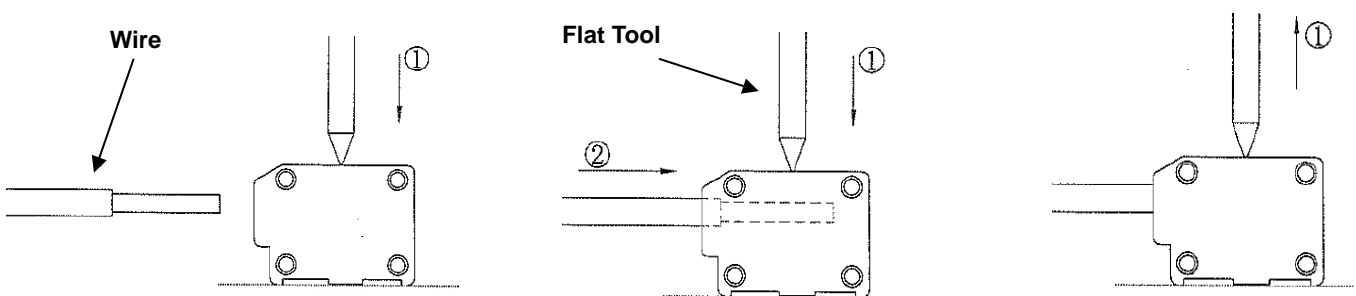

Figure 3:2834088 to 2834090& 2834097
2. Wire Inserting: see Figure 3, 5, 7